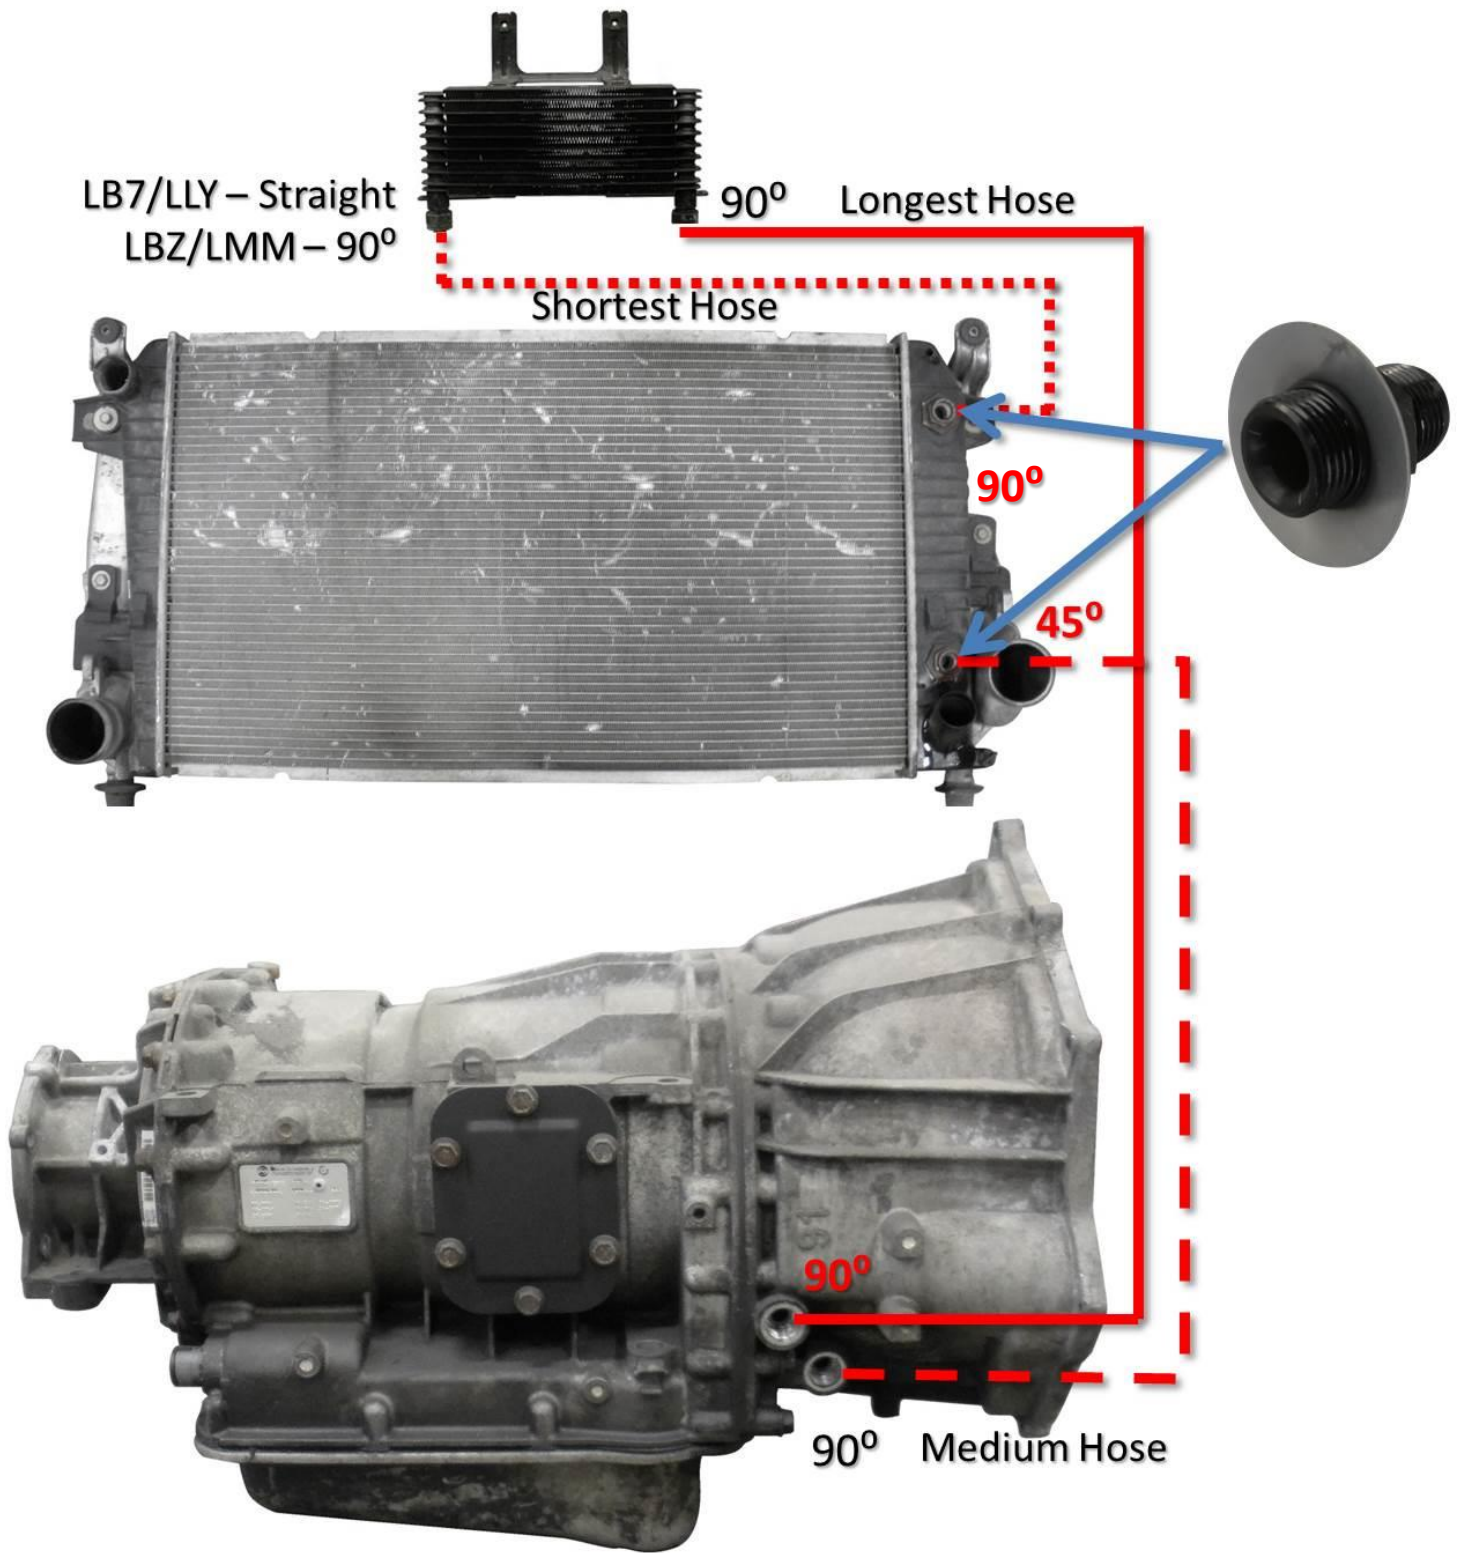

Figure 1: Allison Transmission Line Routing Diagram
4. Some LB7-LLY transmission coolers use (2) 1/2" NPT to -10AN fittings which we have included in the LB7-LLY kits.
6. Install the transmission lines according to the Figure 1.